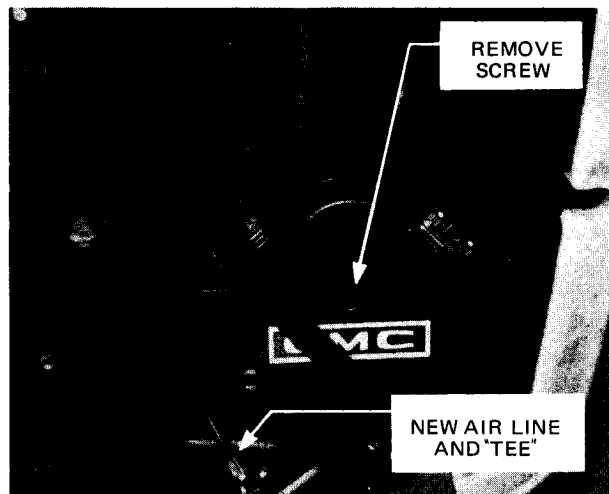

FIGURE 5
12. The air line from the regulator should be plumbed into the air line going to the rear wheel air bag, if this has not already been done as described in previous Technical Service Bulletin 74-TM-7 in Group 4 - Rear Suspension. This is done using either a brass or nylon tee. A piece of new air line may be required to achieve proper length (Figure 5).